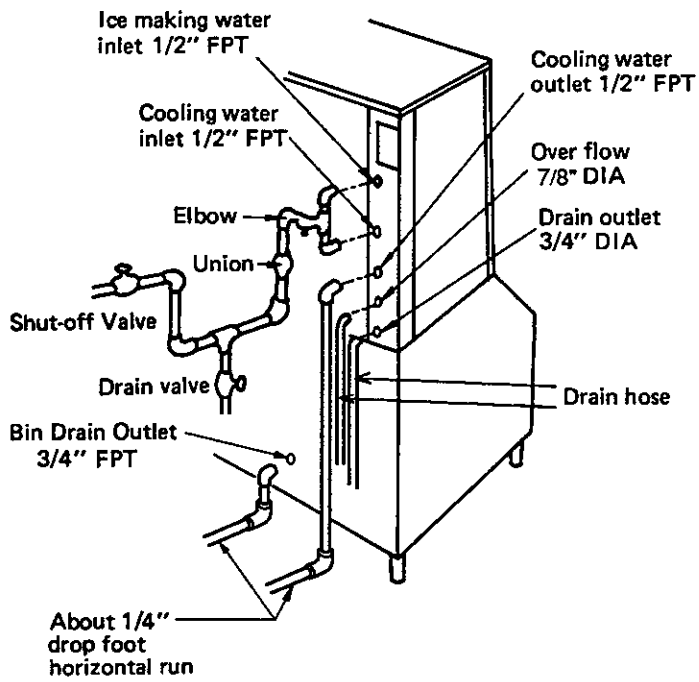

Fig. 10
8. WATER SUPPLY AND DRAIN CONNECTIONS - See Fig. 10